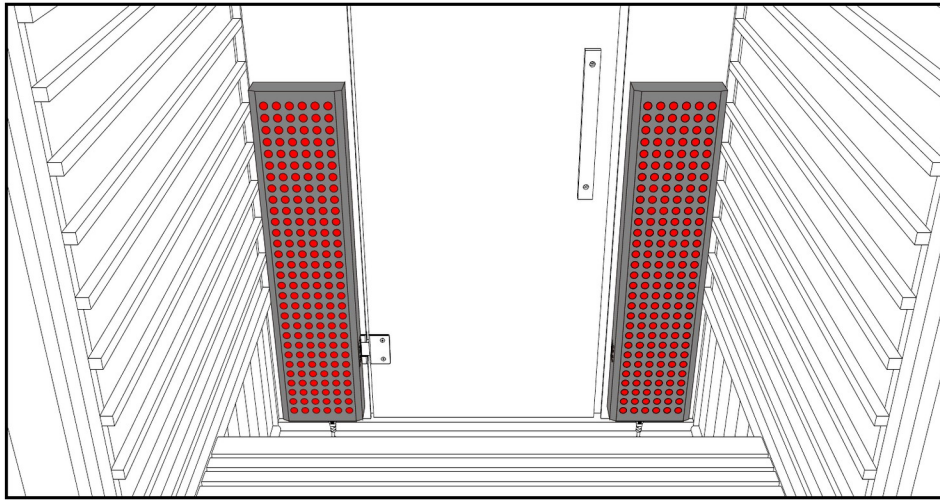

Figure 30. The two red light therapy panels mounted on the glass panels either side of the door, seen from inside the sauna.
- Repeat this step for the second red light therapy panel on the Front Right Panel (**Figure 30**).